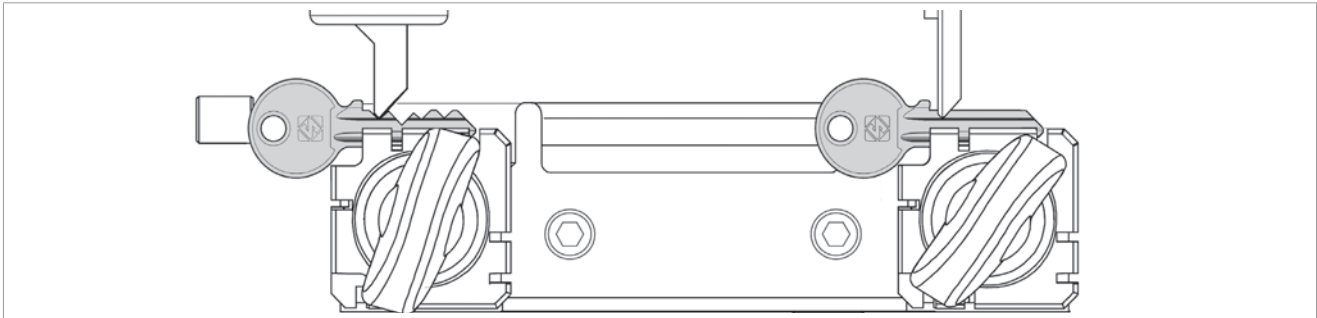

Fig. 24
- 1) Take the carriage up to the tracer point/cutter and keep the tracer point on the cut (Fig. 24).
- 3) Turn off the machine with switch (K) before removing the duplicated key.
- 5) Turn on the machine with switch (K) and smooth off the key edges by means of the brush (S).